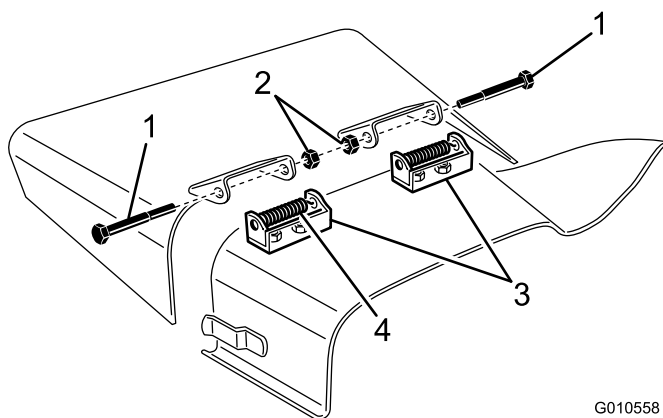

Figure 27
2. Remove the 2 bolts, locknuts, and springs securing the deflector mounts to the pivot brackets (Figure 27).
3. To remove the pivot brackets, remove the carriage bolts and nuts (Figure 27).